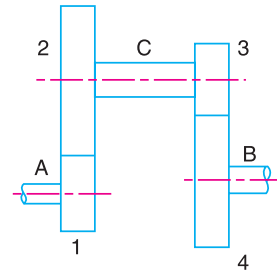

Fig. 13.32
3. In a reverted gear train, as shown in Fig. 13.32, two shafts  $A$  and  $B$  are in the same straight line and are geared together through an intermediate parallel shaft  $C$ . The gears connecting the shafts  $A$  and  $C$  have a module of 2 mm and those connecting the shafts  $C$  and  $B$  have a module of 4.5 mm. The speed of shaft  $A$  is to be about but greater than 12 times the speed of shaft  $B$ , and the ratio at each reduction is same. Find suitable number of teeth for gears. The number of teeth of each gear is to be a minimum but not less than 16. Also find the exact velocity ratio and the distance of shaft  $C$  from  $A$  and  $B$ .